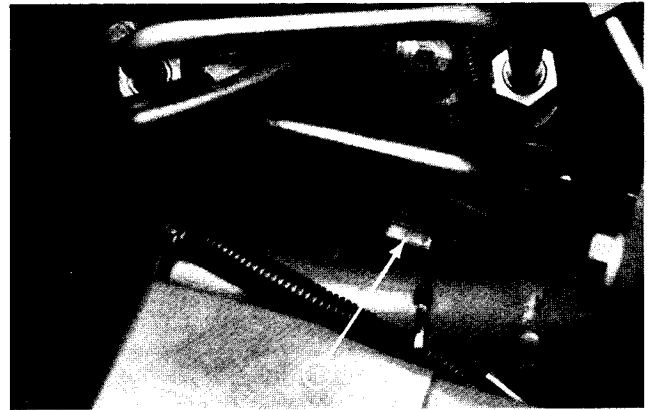

Figure 26
1. Pull connector off switch terminals of traction switch installed in valve bank bonnet on selector valve section (Fig. 26).